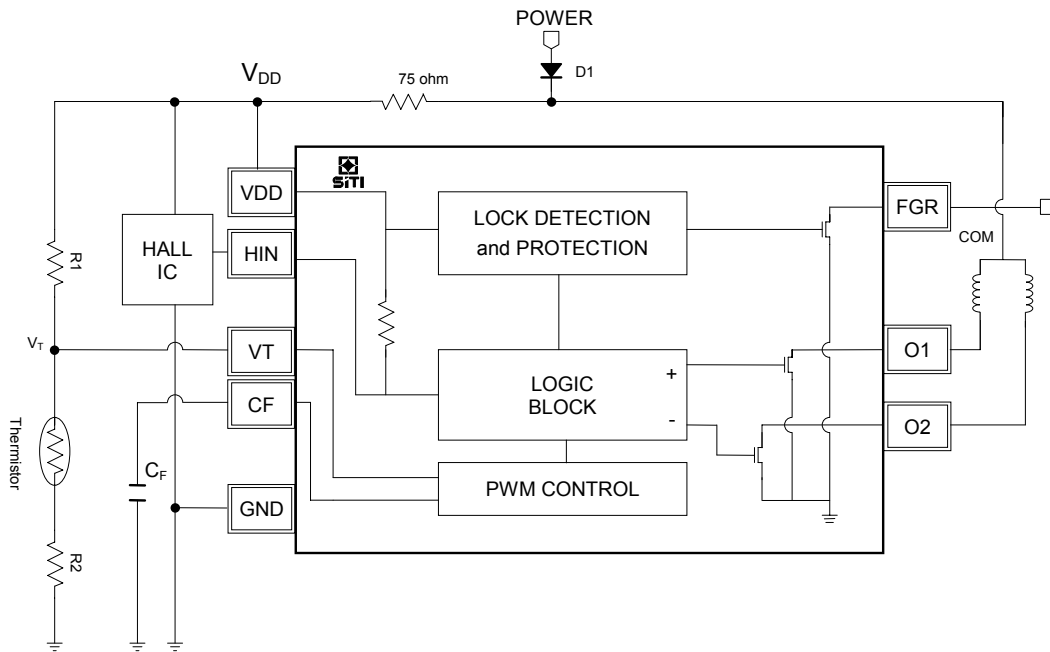
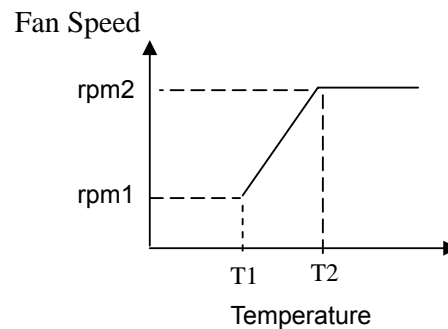

Figure 1. Fan speed control by the external temperature sensor.
Figure 2. Desired Temperature-Speed Curve
1. Temperature-sensing fan speed control —Refer to Figure 1.
- (1) If the linear temperature control is desired, the VT terminal is connected to a thermistor-resistor divider, as shown in Fig. 1. In this way, the fan speed can vary linearly with respect to the temperature variation; the higher temperature results in the faster speed.
- (2) Figure 2 illustrates the desired temperature-speed curve. Assume that the resistance of the thermistor is R_{T1} when the temperature is at $T1$, and R_{T2} at $T2$. Also assume that the voltage $V1$ applied to the VT pin will result in the fan speed rpm1, and $V2$ applied to the VT pin yielding rpm2. Note that the relation between the VT voltage and the fan speed depends on the size and the coil impedance of the fan. To obtain the desired temperature-speed curve, the resistance values of $R1$ and $R2$ in Fig. 1 can be roughly selected by the following equations.
where V_{DD} denotes the voltage at the VDD pin, see Fig. 1. Normally, V_{DD} is around 10.8 Volt, which may slightly vary with the variation of the driving current.